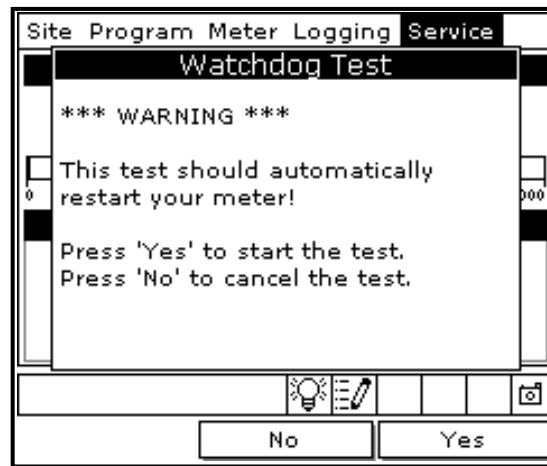

Figure 65: Watchdog Test Screen
4. Use the arrow keys to scroll to Watchdog Test and press **[ENTER]**. The screen appears similar to *Figure 65*.